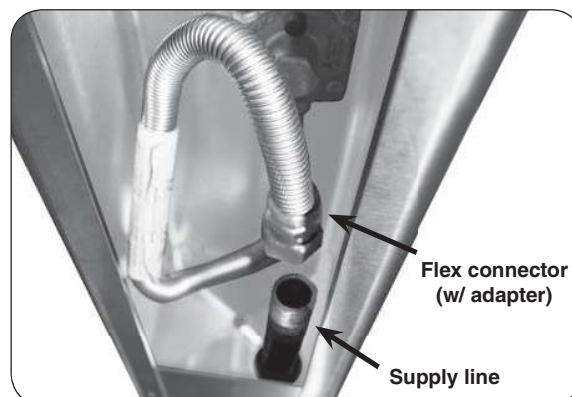

Fig. 17-3 Post interior detail
2. Verify that the gas supply line fits through the gas line clearance hole in the bottom of the post (see Fig. 17-3). The clearance hole is the larger of the two holes in the bottom of the post and is off center.